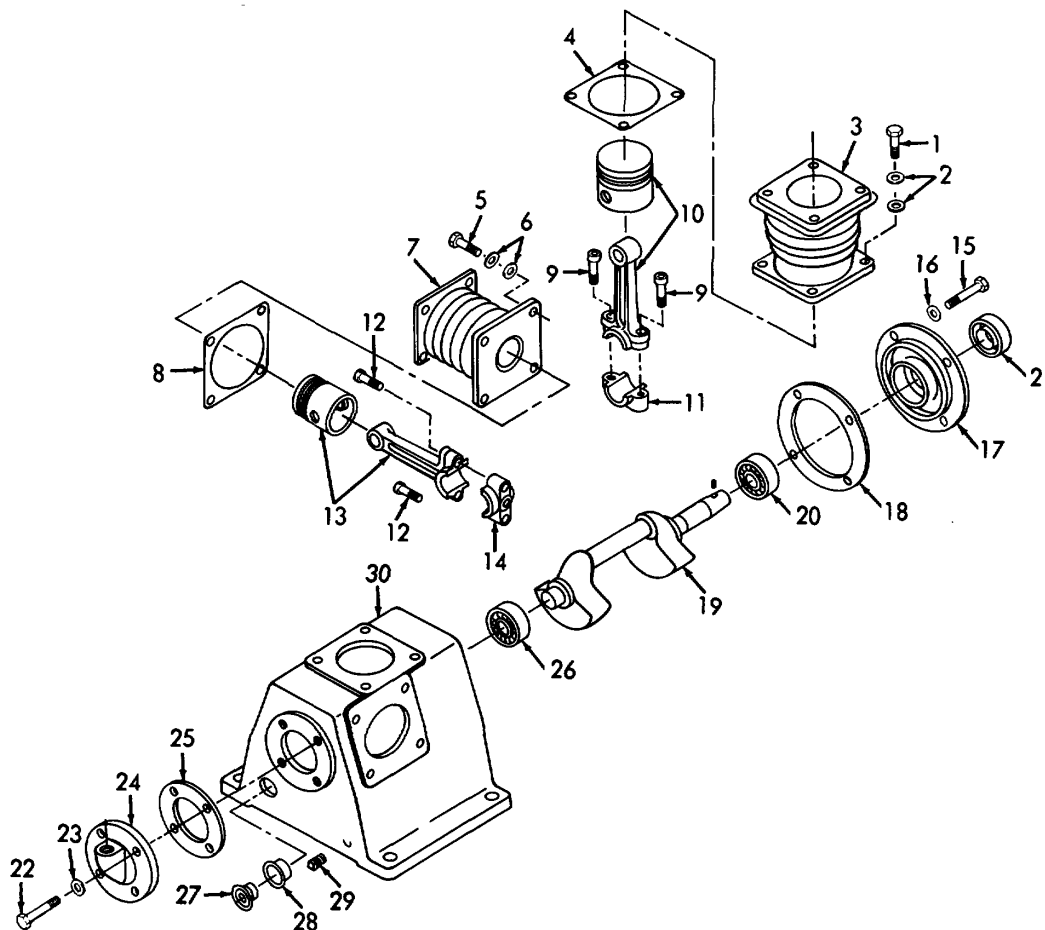

Figure 4-1. Air Compressor, Disassembly.
a. Disassembly. (Refer to Figure 4-1).
- (1) Remove four bolts (1), eight copper washers (2), first stage cylinder (3), and gasket (4). Discard gasket. Repeat for other first stage cylinder.
- (2) Remove four bolts (5), eight copper washers (6), second stage cylinder (7), and gasket (8). Discard gasket.
- (3) Remove two bolts (9), first stage connecting rod and piston assembly (10), and connecting rod cap (11). Repeat for other first stage piston.
- (4) Remove two bolts (12), second stage connecting rod and piston assembly (13), and connecting rod cap (14).